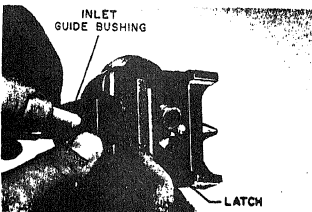

Figure 11. Installing Inlet Guide Bushing
e. Lift casing catch and install inlet guide bushing in bottom hole of drive roll housing (Fig. 11). Release catch.